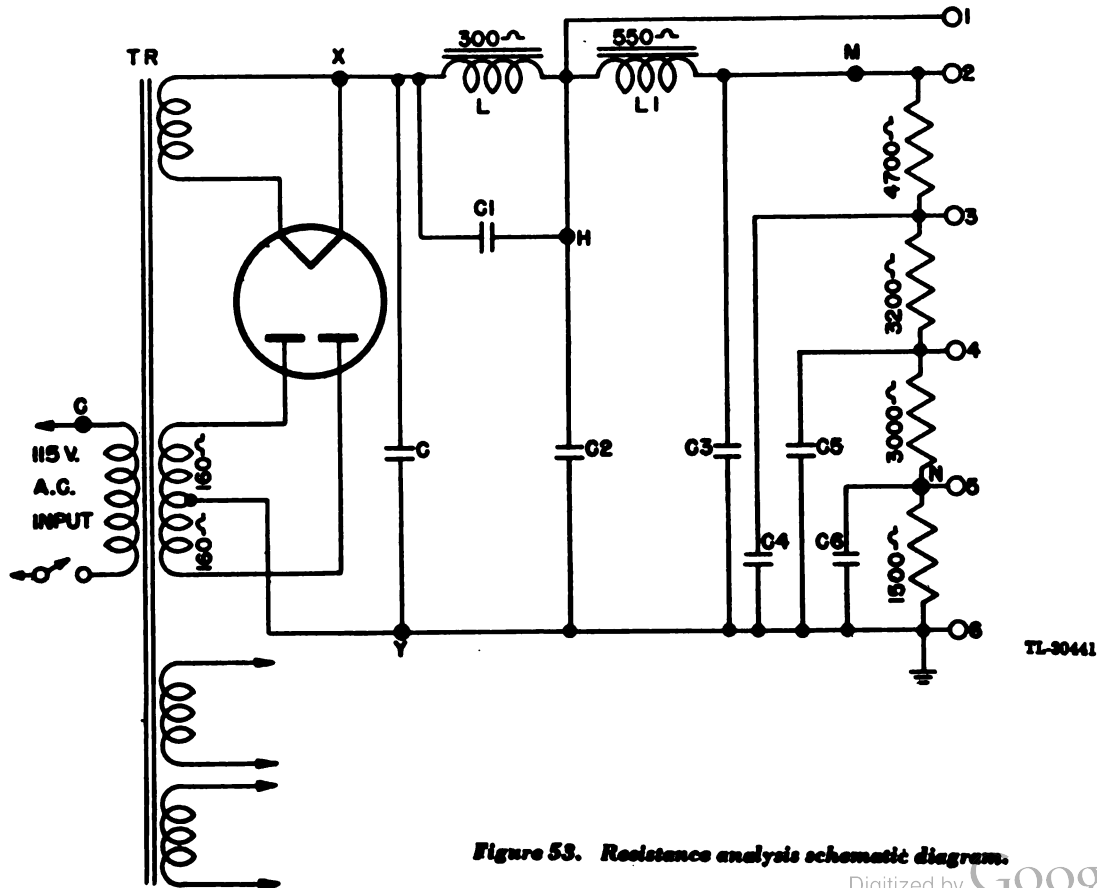

Figure 53. Resistance analysis schematic diagram.
c. **Resistance Analysis.** The low-voltage power supply shown in figure 53 is used as a sample of